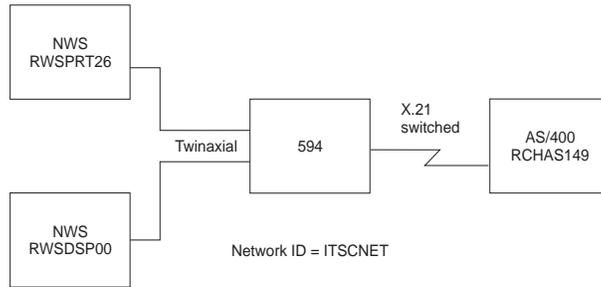

Fig. 3: X.21 Switched configuration
- Fig. 3: X.21 Switched configuration 3